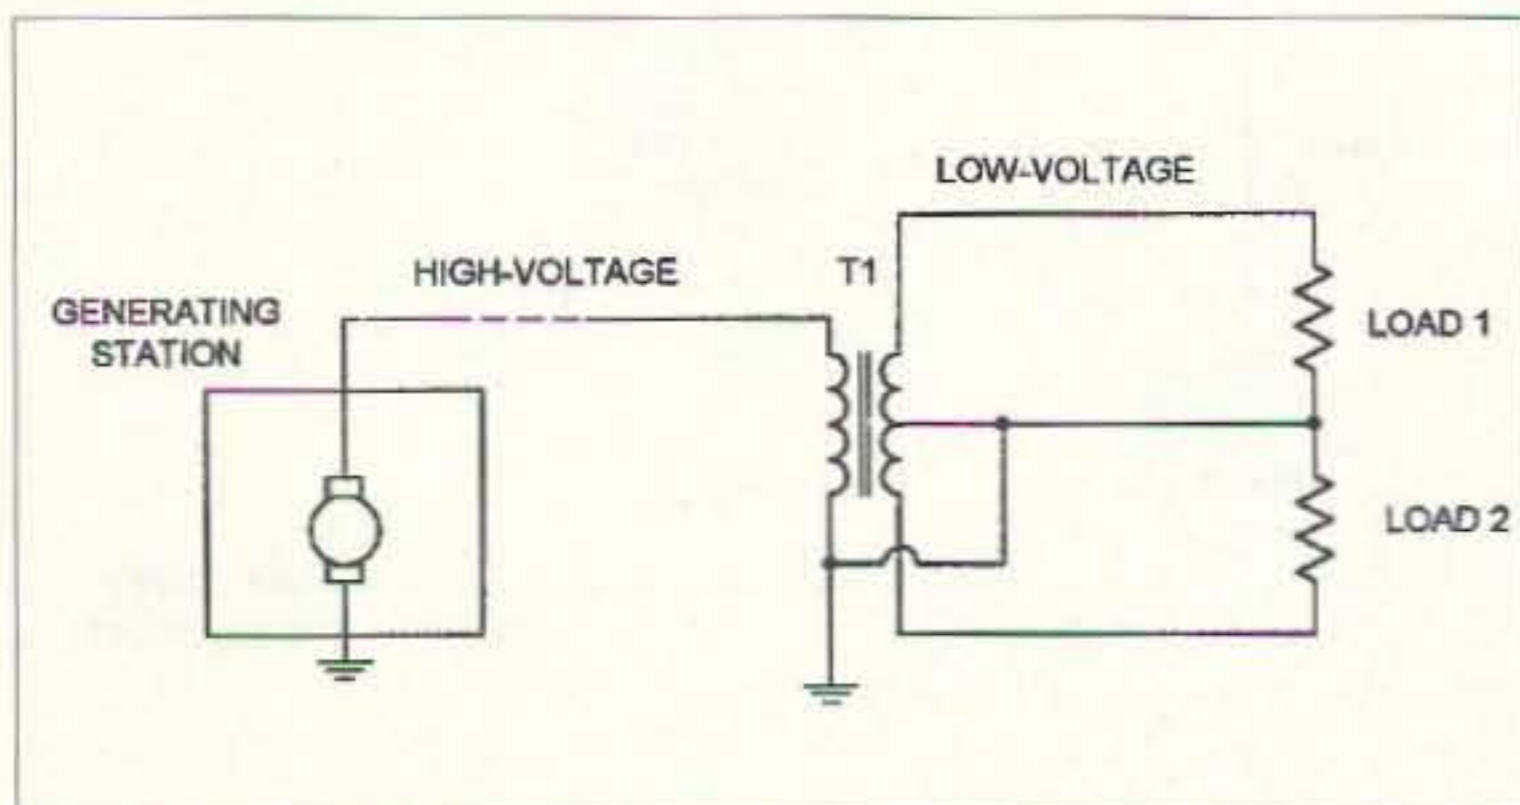

Fig. 1. North American power distribution system.
Drawing your attention to September's article "The Amateur's Guide to 'Free Energy' Devices," **Fig. 1** on page 10 is actually **Photo A** seen also on page 18. For those who caught that before we did and were wondering how the heck the generator pictured could harness ocean waves, here's what **Fig. 1** really looks like:
Fig. 1 shows the standard AC power distribution system in North America. The generating station produces high voltage AC power. It is distributed at high voltage so that the current is reduced (for any given wattage), and that makes transmission through lossy transmission lines less of a headache. It will go through a number of step-down transformers, but I've shown only the one outside your house. It will have a high-voltage primary, and a 240 volt center-tapped secondary. The center tap is grounded. If you want a 240 volt outlet, then you take the voltage across the two ends of the transformer. But if you want 120 volts, then you take the voltage from ground to either end. Two "circuits" can be served (shown as LOAD 1 and LOAD
2). Of course, in a real system there are switches, fuses, circuit breakers and a distribution box as well as the transformer shown in Fig. 1.
Fig. 1. The 74LS74 is notorious for the number of jumpers needed, and serves as a good example of how Frank KB4ZGC's idea can be implemented to avoid the "under-PC-board jumper jumble."
From **J. Frank Brumbaugh KB4ZGC/W4LJD**: "I've found this wiring technique to be helpful at times, so I'm passing it on to others who may want to try it. Sometimes Dual Inline Pin (DIP) chips (particularly those in the 7400 family or even the venerable NE-555) require a number of jumper connections among several of their pins to make everything operate correctly. This can result in a jumble of wires or a complicated PC board trace layout in order to accomplish the task. But here's another approach: Carefully solder very fine wires—taken from an untwisted short length of ordinary stranded hookup wire—and make some of those jumper connections right on the bottom of the chip itself. Take care to avoid any shorts, and make the connections high on the IC's "legs," but prewiring some chips like this can save a lot of under-board crosswiring later on. This jumper prewiring can be done on the IC sockets instead, before installation, if your project uses sockets instead of the chips themselves soldered directly to the board. Even if it isn't practical to prewire every jumper needed, the more you can eliminate using this technique, the neater the finished board will appear. Take a look at **Fig. 1** for a couple examples of this technique."